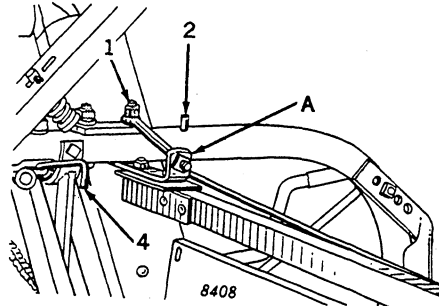

Figure 81
1. (Figure 81) Bolt windshield support with brace to seat pipe.
2. (Figure 81) Hook parallel rod into bracket on windshield and attach parallel rod to seat pipe.
3. Bolt windshield to support. Put bolt in from top side. Shield must pivot freely. Adjust support brace nuts at "A," Figure 81, to level windshield.
4. (Figure 81) Hook adjusting link into adjusting plate.